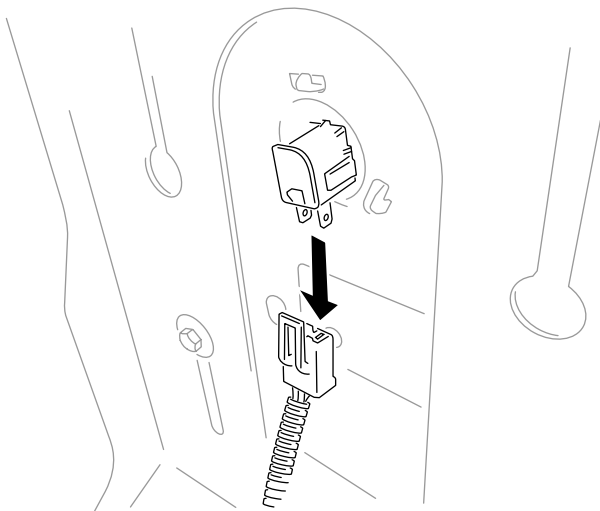

Figure 2
3. Disconnect the harness from the seat switch (Figure 2).